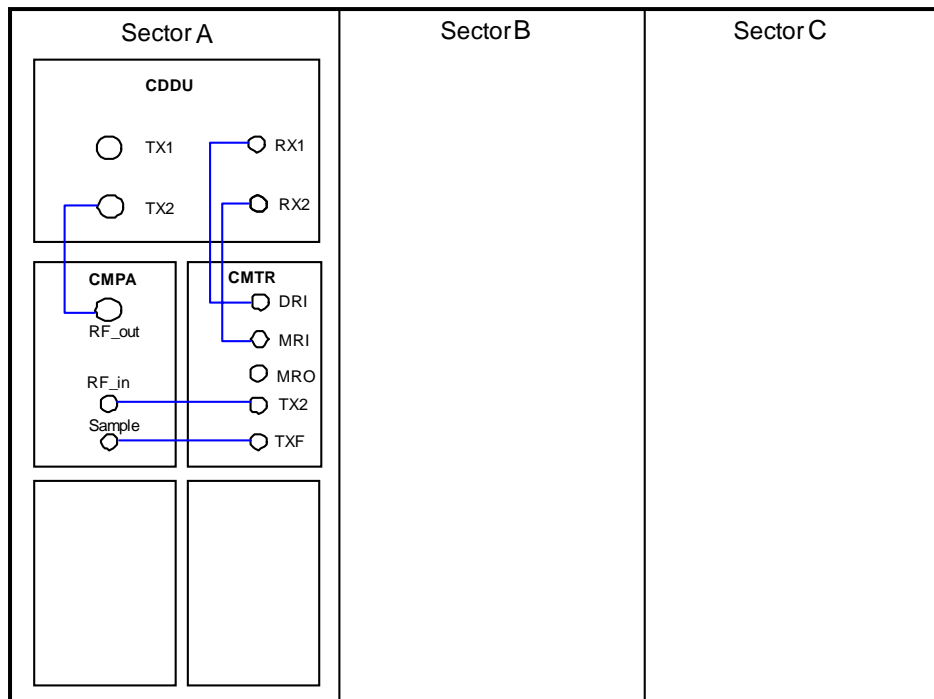

Figure 4-7 O(1) configuration
I. O(1) Configuration
The O(1) refers to an omni cell with one carrier. Figure 4-7 shows RF cable connections, indicated by blue lines.